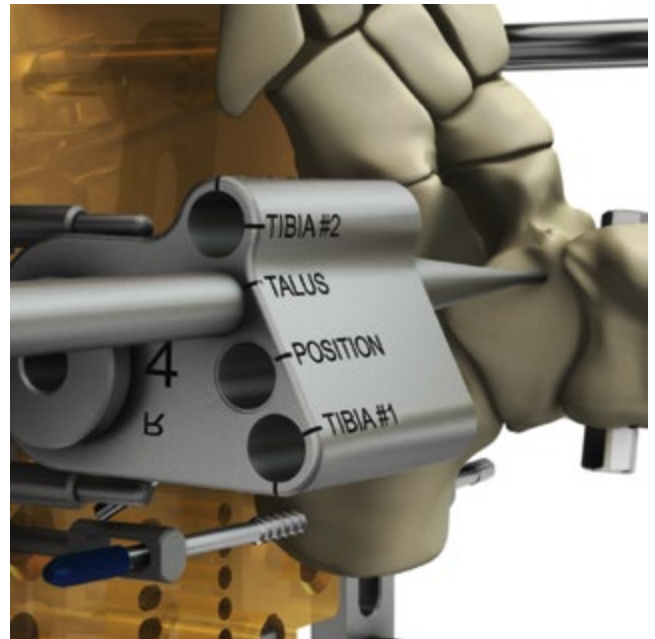

Fig. 40
- Repeat the sweep again using the “TALUS” hole to visualize the amount of talar bone that will be removed (Fig. 40).